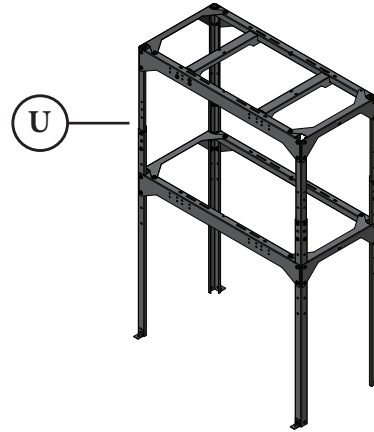

FIG. 1
Assemble the Stand (U) [FIG. 1] by referring to the included instruction sheet: